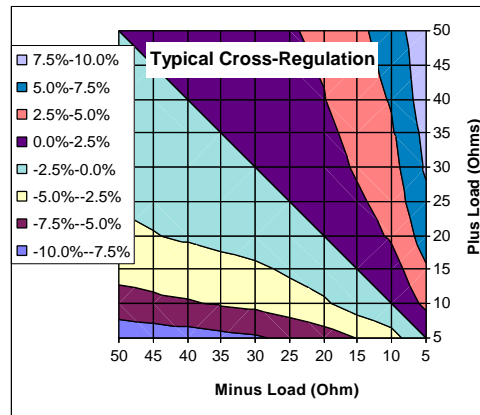

Figure 10
for dual output units, that mismatch of loads between the primary and auxiliary outputs, can result in poor cross-regulation (on the auxiliary output - see Figure 10).
The auxiliary output will track the primary output as long as the loads are reasonably well matched. Figure 10 shows the effect of load mismatch for the SP10. These results are typical (at 150C). This plot shows, for any allowable load condition, the deviation of the minus output (in %) from the nominal voltage.
The ripple voltage, as illustrated in Figure 10, is small enough for many applications. Additional filtering can improve this performance. Distributed capacitance (i.e. de-coupling capacitors) is always recommended for distributed power systems.
2. Does not apply for single output supplies. See Figure 10.